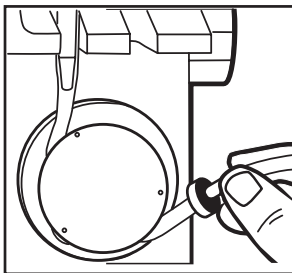
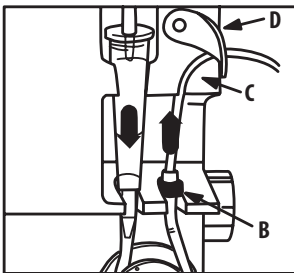

Figure 5A
Figure 5B
12. Grasp the clear tubing below the **Optix** connector and guide the silicone tubing around rollers (see Figure 5A). Insert **Optix** connector into **Optix** lock (B). Thread tubing into tubing guide (C). Secure latch (D) over tubing (see Figure 5B).